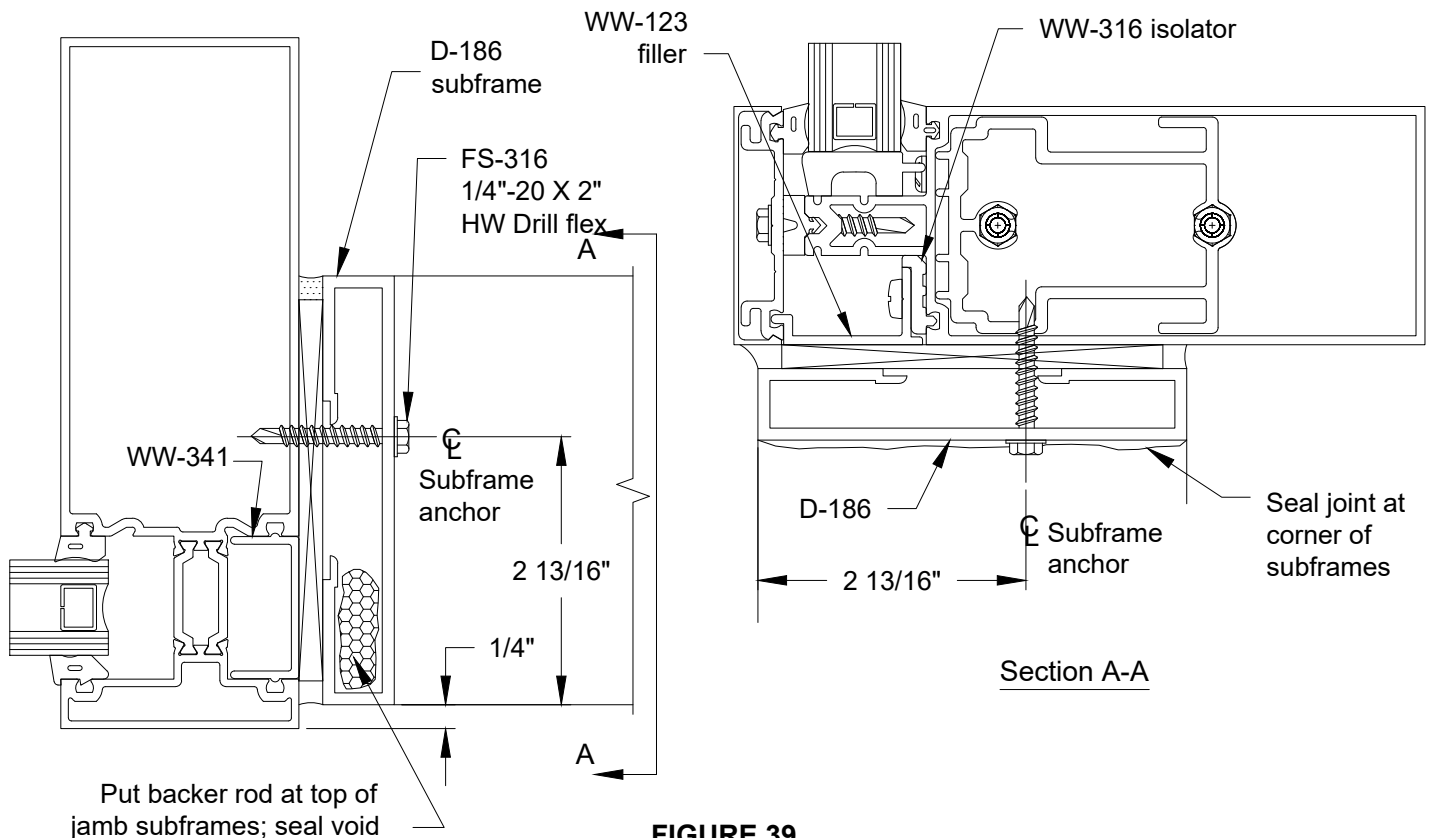

FIGURE 39
C.2.1 Attach TH-44 threshold clip to bottom of each subframe jamb with two (2) FS-256 #8 x 1 1/2" Phillips Round Head Screws
C.2.3 Bed subframes in sealant and anchor to curtain wall framing members with FS-316 1/4"-20 x 2" HWH Drill flex at 18" on center. Seal joint between jamb and header subframes. Seal also tops of jamb subframe. **SEE FIGURE 39.**